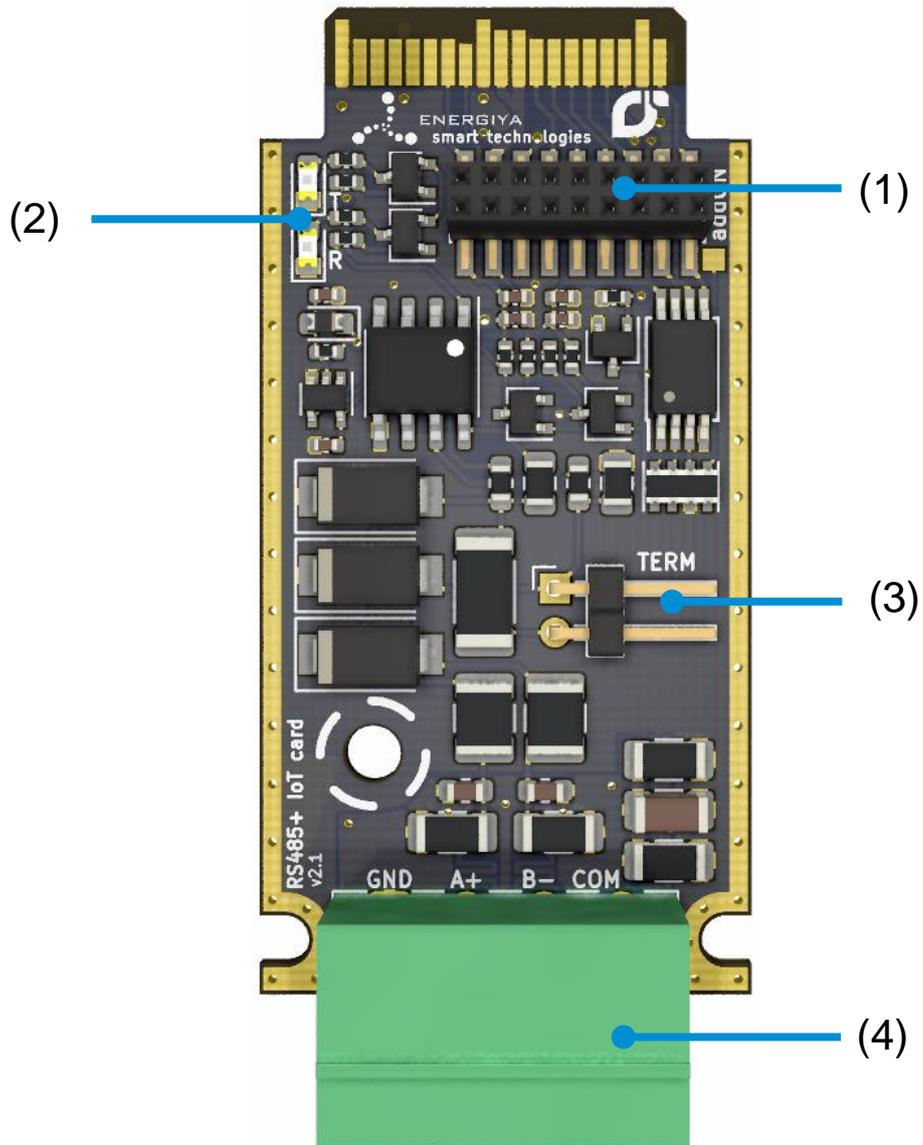

fig. 1
- Important!** Terminating resistors are used to avoid signal reflections. They are connected in parallel between terminals A and B of the RS485 bus at its extreme points. To connect the terminating resistor in the RS485+ IoT card, the jumper must be shorted on the TERM pins (see figure 1, element 3).